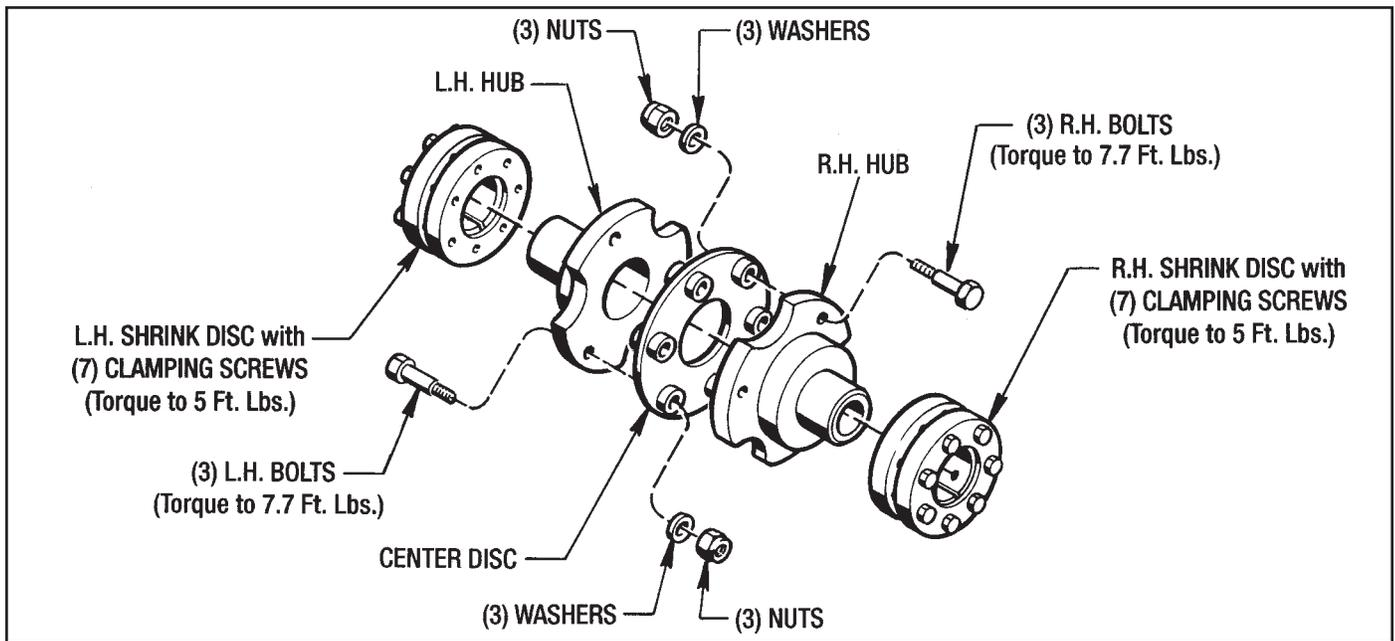

Figure 6.10 - Drive Coupling Elements
2. Separate the Coupling (#747) (See Figure 6-10). **Only the (3) L.H. Bolts need to be removed to separate the Coupling Elements.**
7. The separated coupling elements can now be removed from each shaft by loosening the (7) Clamping Screws in each of the Shrink Discs. (See Figure 6.10)
1. Place the L.H. Coupling Elements (L.H. Shrink Disc and the L.H. Hub) as far back as possible onto the keyless end of the Input Shaft (#11) in the L.H. Gearbox. Just hand tighten the (7) Clamping Screws in the Shrink Disc so it won't fall off the shaft. **Do not torque these screws yet.** (See Figure 6.10)
R.H. Shrink Disc) as far as possible onto the Input Shaft (#821) in the R.H. Gearbox. Again, only hand tighten the (7) Clamping Screws in the Shrink Disc. (See Figure 6.10).